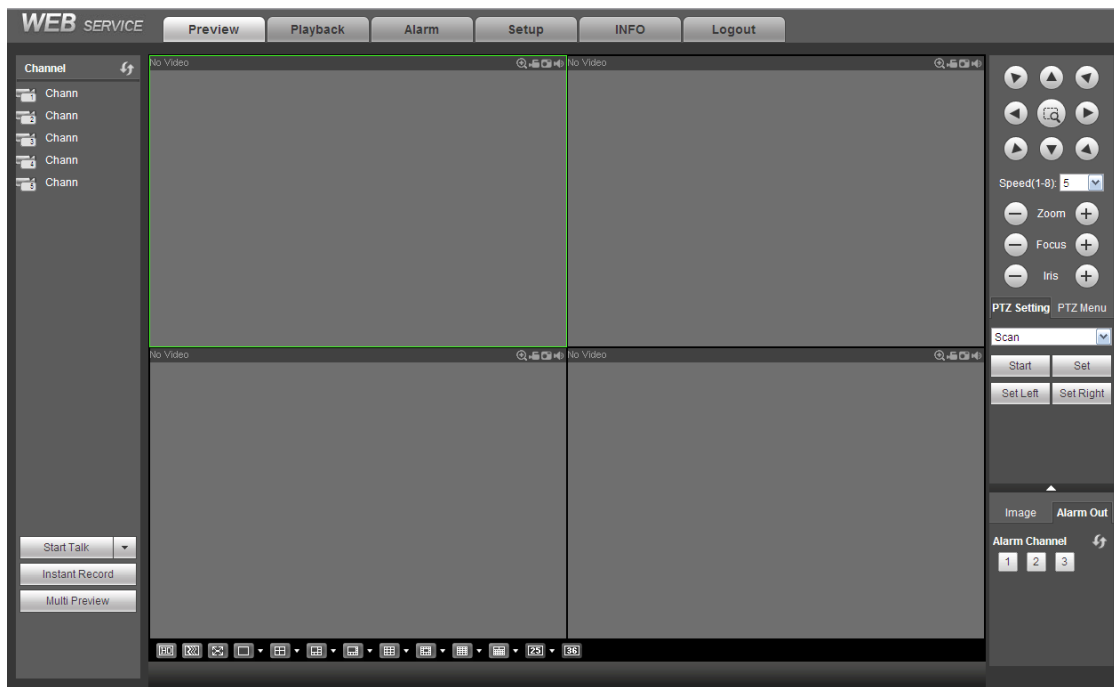

Figure 5-21
2) You can select different channels and different monitor modes at the bottom of the interface. See Figure 5-21.